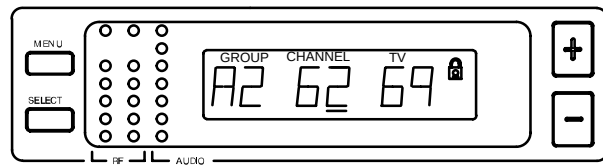

FIGURE 33
5. A small "lock" symbol will appear in the upper right corner of the status screen displays, as shown in Figure 33. The lock symbol indicates the receiver is in the lock mode.